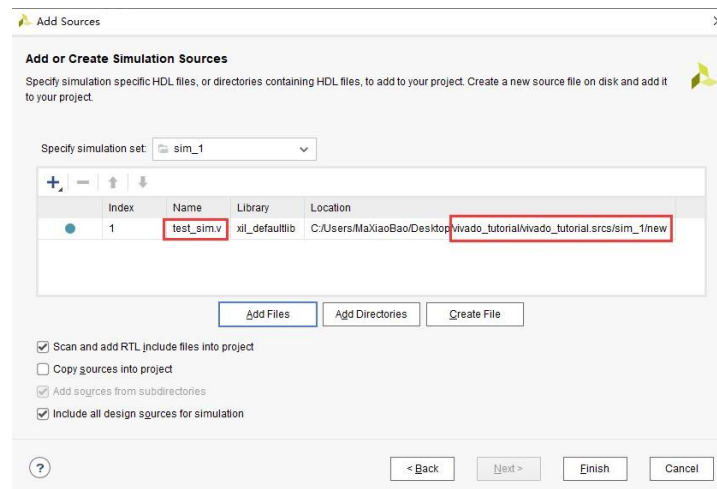

Figure 6.
8. Click **Add Files** and add your simulation file **test_sim.v** ,as shown in figure 6